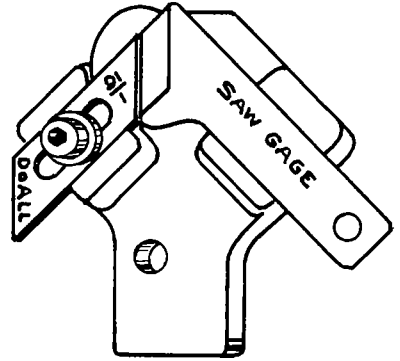

Figure 20
3. Place the left hand insert in the milled slots as shown in Fig. 20, and tighten the screw lightly so that the insert will slide in the slot, but will hold its position.